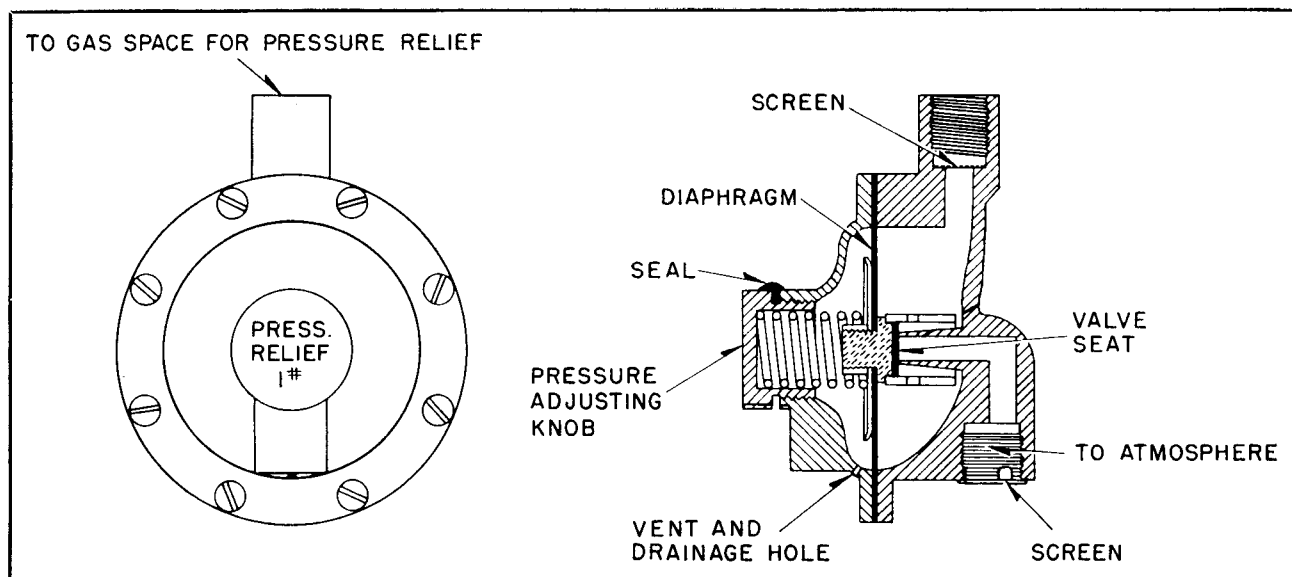

FIG. 1 Pressure Relief Valve
**THE GAS SPACE** above the oil in the URS Tap Changer is vented to the outside air by a uni-directional relief device; its general construction is shown in Fig. 1. When the pressure exceeds one pound per square inch, the gas space is vented to the outside air to reduce the pressure to this limiting value. As the pressure diminishes, the relief valve closes to prevent in-breathing; oxygen and moisture are thus kept out of the tap changer compartment. The tap changer is designed to withstand the resulting negative pressures. A screen is provided for both the inlet and exhaust ports of the relief valve to keep foreign material and insects out.